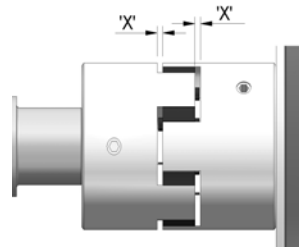

Figure 28 – Drive Coupling Spacing
- Via the inspection hole, check that the coupling halves have engaged correctly and that the gap between the two halves is as shown in Figure 28.